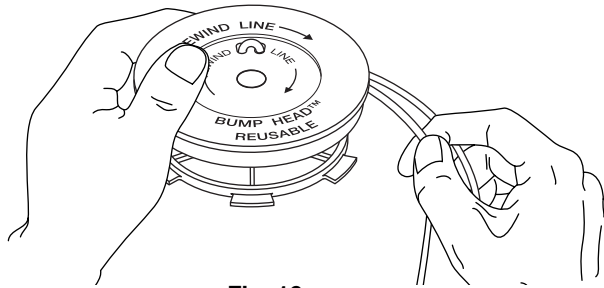

Fig. 16
- Wind the lines in tight even layers, onto the reel (Fig. 16). Wind the line in the direction indicated on the inner reel. Place your index finger between the two lines to stop the lines from overlapping. Do not overlap the ends of the line. Proceed to step 11.